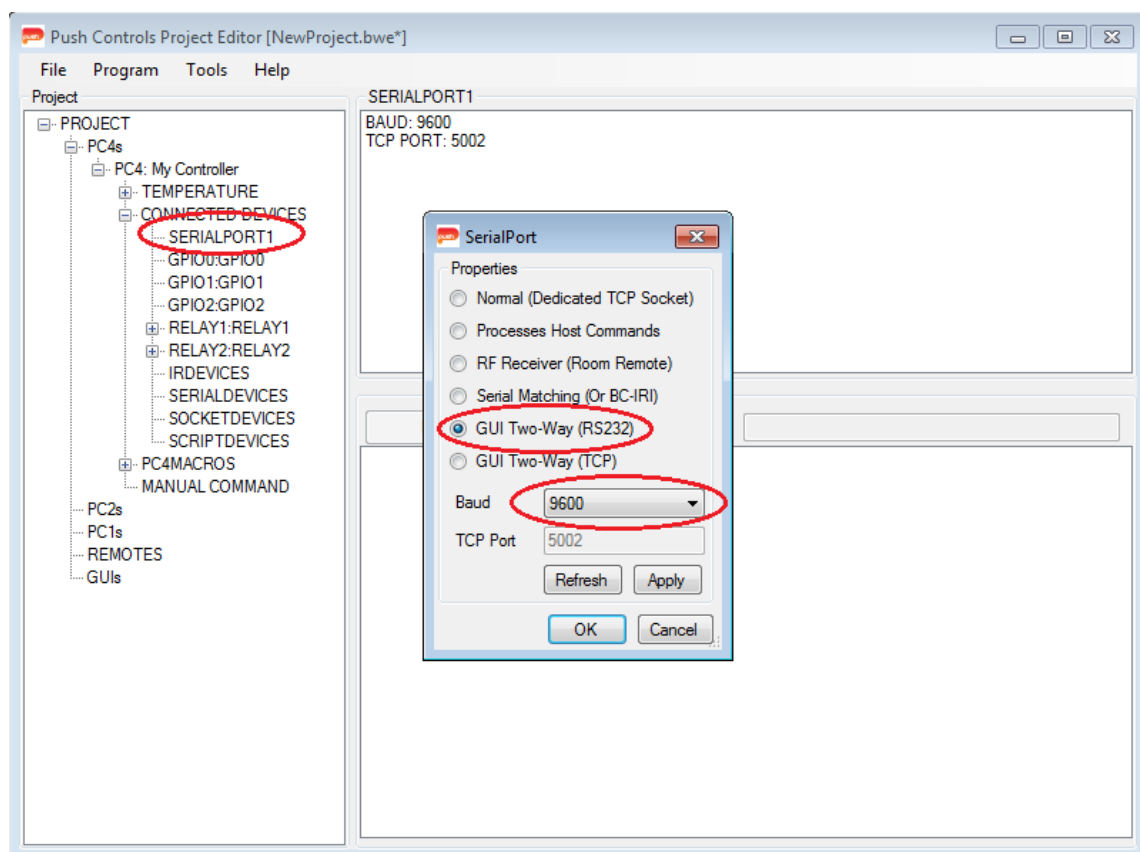

Figure 5 – Configuring the RS232 port on a PC4
- Select the PC4 controller. *Refer to Figure 5*